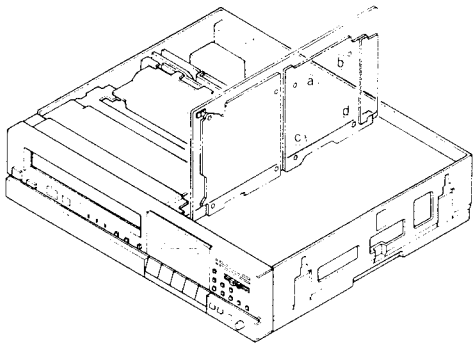

Fig. 2-7
- 2) Unlock the four PCB supports (a, b, c and d) retaining the PCB LP-SS as shown in Fig. 2-7.